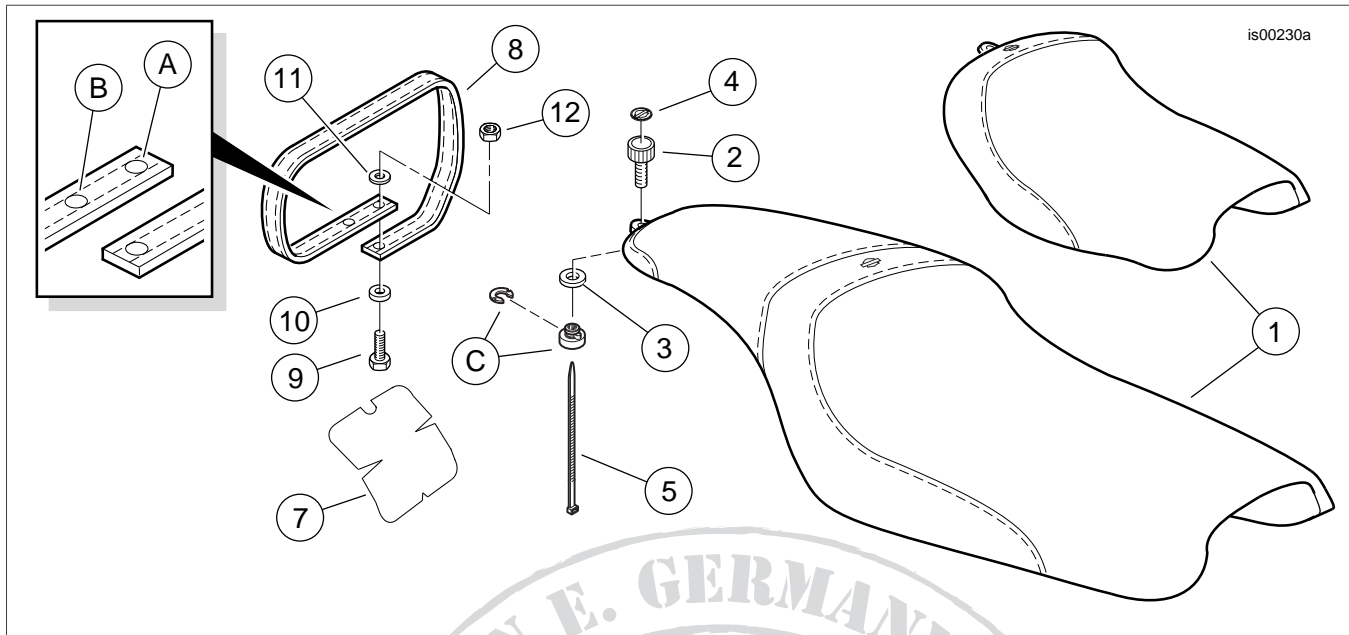

Figure 5. Service Parts: Dyna Custom Seat Kits
See Figure 5 and Table 2 for complete kit contents.
6. See Figure 5. Obtain the **new** grab strap (8), hex head screw (9), plastic retention nut (10), washer (11) and hex nut (12) from the kit.
12. Obtain the protective tape (3) from the kit. Peel the liner from the adhesive backing of the tape. Carefully position the rounded notch (4) around the center fender hole (5) as shown, and smooth the tape firmly into place.
13. See Figure 5. Slide the rear of the **new** seat (1) through the grab strap. Rest the seat on the frame backbone.
9. See Figure 5. Obtain the **new** seat (1) from the kit, and rest the seat on the frame backbone. Slide the seat toward the front of the motorcycle until the front tang locks into the channel in the frame.